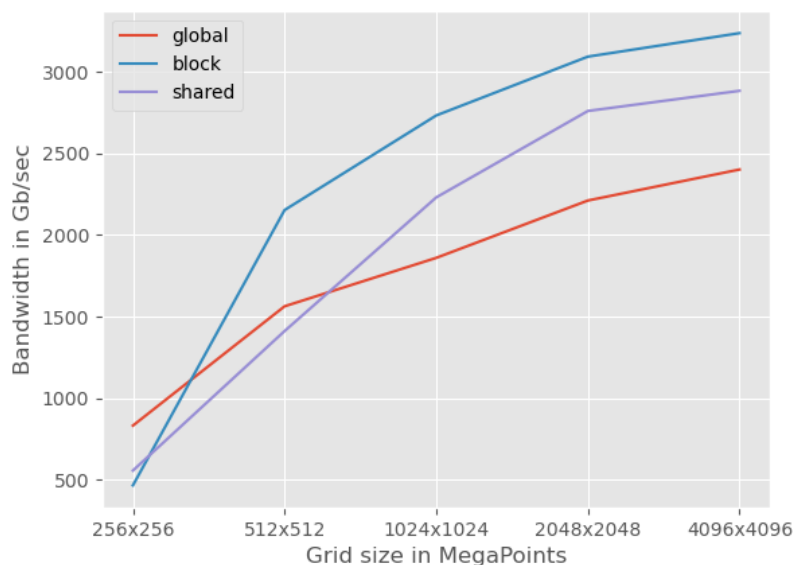

Figure 4: Bandwidth vs grid size for different algorithms at order 8
Figure 4 illustrates how bandwidth changes with grid size at order 8 for our three different algorithms: global, block and shared. As we might expect, bandwidth initially increases with grid size (as we increase the number of warps simultaneously making requests to global memory), and asymptotically approaches a limit that represents our memory bound. Interestingly the block algorithm achieves higher bandwidth than shared and global algorithms for all larger grid sizes.
- **Difference among kernels.** The block kernel outperformed both shared and global kernels (figure 4). While this was expected for the global kernel given our block implementation should result in more cache hits, the shared memory performance was surprising. This may be due to bank conflicts or calibration of thread block dimensions vs numYPerStep.
- **Difference from varying problem size.** As you increase grid size, you increase the number of warps requesting memory in parallel, which hides latency and improves our bandwidth. This improvement will asymptotically approach the memory bound (figures 4, 5 and 6).